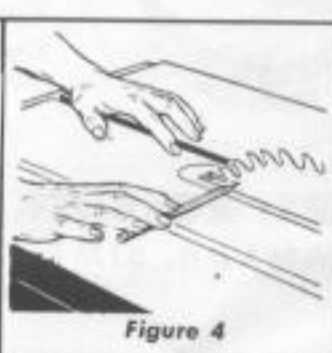

Figure 4
- (1) Make a pencil mark on saw tooth that is just above table top at front of blade. (See figure 4.)